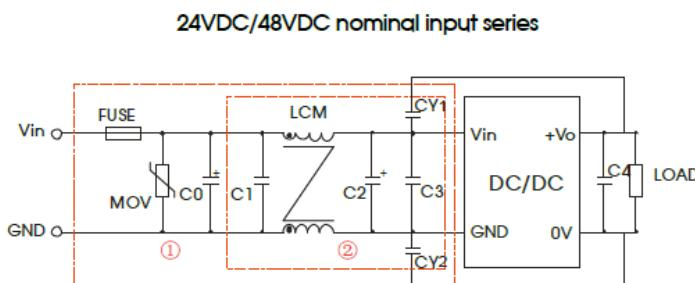

Fig. 3
24VDC nominal input	CISPR32/EN55032 CLASS A (without extra components.)/ CLASS B (see Fig.3-② for recommended circuit)
48VDC nominal input	CISPR32/EN55032 CLASS B (see Fig.3-② for recommended circuit)
Notes: For EMC tests we use Part ① in Fig. 3 for immunity and part ② for emissions test. Selecting based on needs.